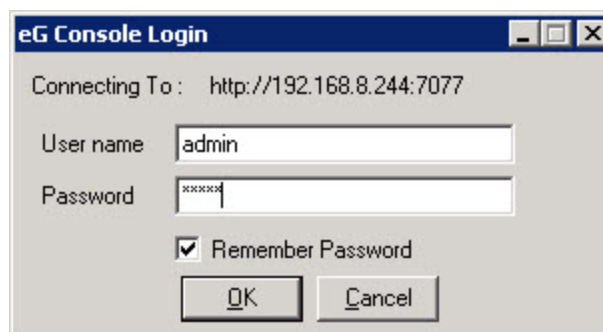

Figure 3.24: Login credentials for accessing the eG management console
8. If you now click on the **Diagnose using eG** option in the **Actions** pane of your SCOM console, you will be prompted for the login credentials (see Figure 3.24) for accessing the eG monitoring console. This prompt will appear only when you click the **Diagnose using eG** option for the very
first time. Provide valid login credentials and click the **OK** button in Figure 3.24. This will automatically invoke the eG monitoring console. The same credentials will be used to launch the eG monitoring console during all your subsequent attempts to **Diagnose using eG**.